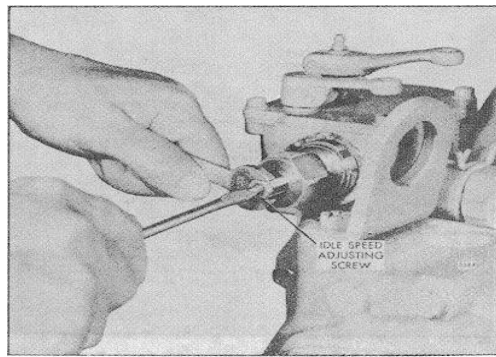

Fig. 7. Adjusting Engine Idle Speed
1. With the engine running at normal operating temperature and with the buffer screw backed out to avoid contact with the differential lever, turn the idle speed adjusting screw (Fig. 7) until the engine is operating at approximately 15 rpm below the recommended idle speed.